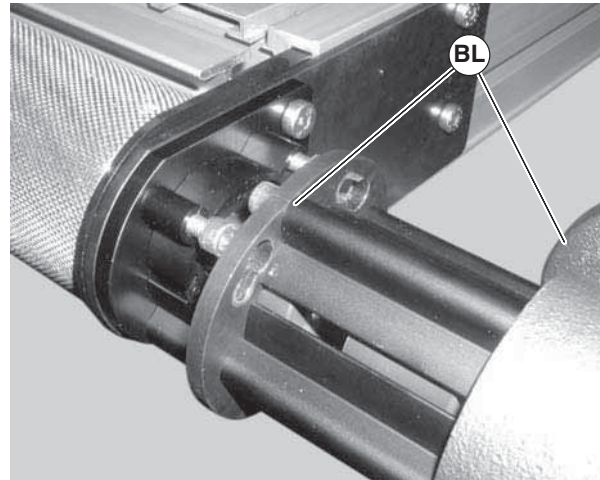

Figure 45
- c. Rotate and remove the gear motor and guard assembly (Figure 45, item BL).